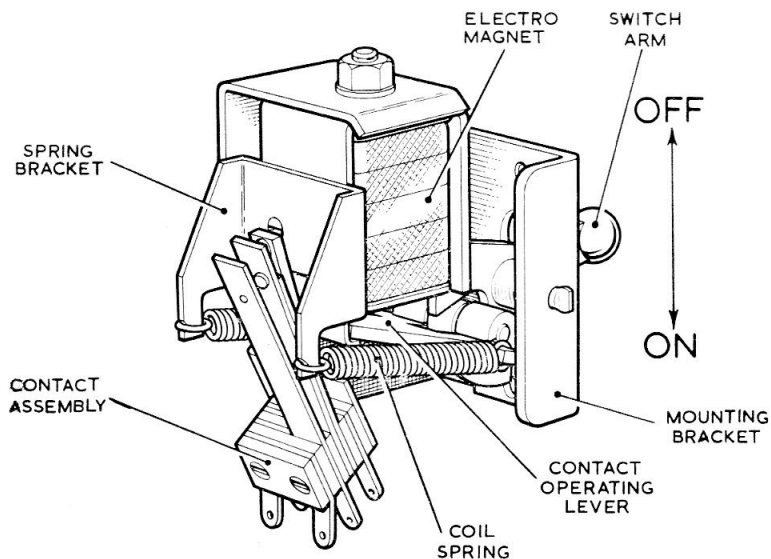

Fig. 1. General view of switch
2. A general view of the switch is given in fig. 1. The switch has a single pole spring leaf contact assembly which is open circuited when the switch arm is in the OFF position. The switch arm is pivotted in the mounting bracket and a slot in its inner end engages with a contact operating lever. The contact